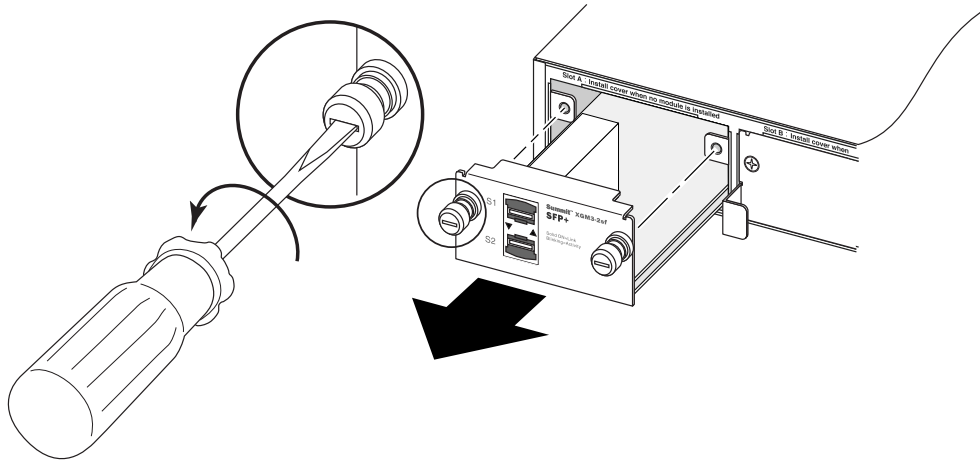

Figure 440: Removing an XGM3-2sf Port Option Card
2. Loosen the captive retaining screws on the option card until they are completely loose (see Figure 440).